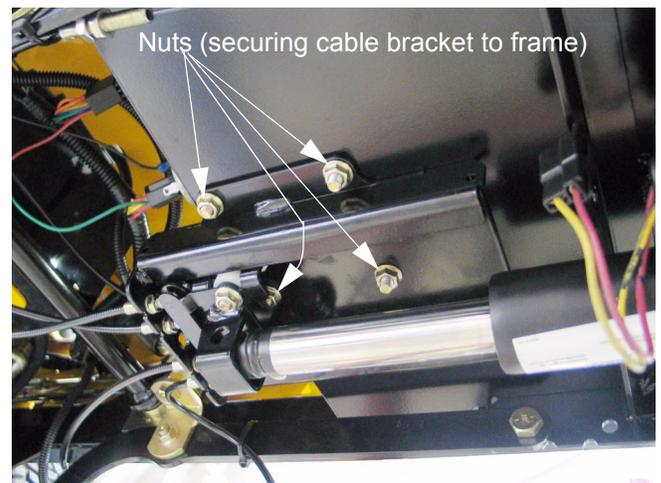

Figure 12.15
- 12.15. Remove the four nuts that secure the cable bracket assembly to the frame of the mower using a 1/2" wrench. See Figure 12.15.